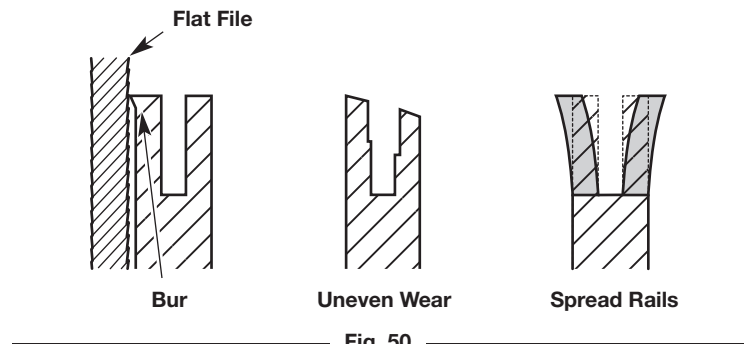

Fig. 50
3. Frequently check the guide bar for damage (Fig. 50). Feathering and burring of the guide bar rails (the ridges on either side of the bar groove) is a normal process of guide bar wear. Such faults should be smoothed with a file as soon as they occur (Fig. 50). A guide bar with the following faults should be replaced: